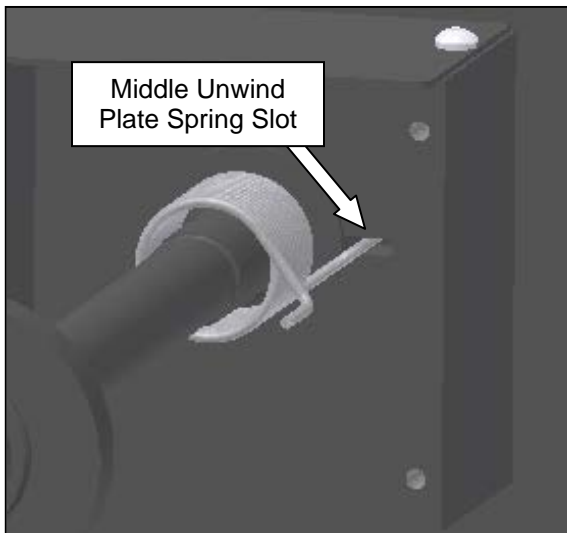

Figure 3-372. Inserting the Unwind Spring
- Slide the new spring onto the shaft. The end of the spring is to be inserted into the slot on the rear side of the hole in the middle unwind plate (Figure 3-372).